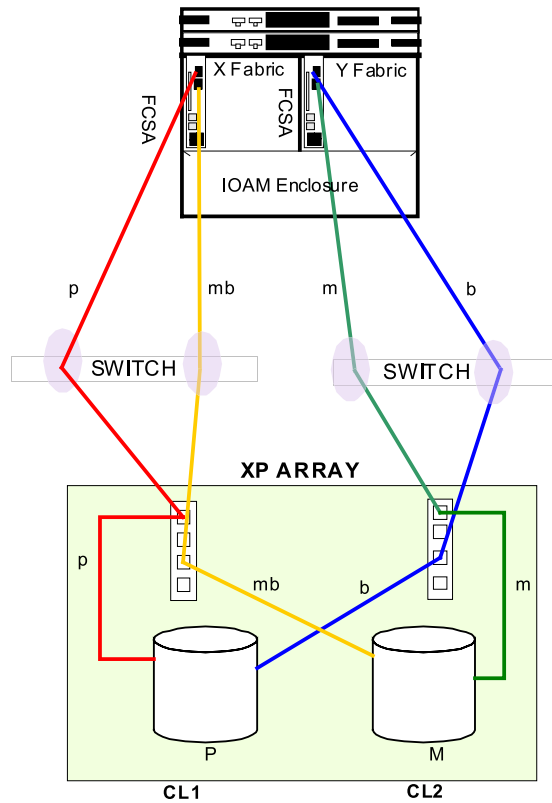
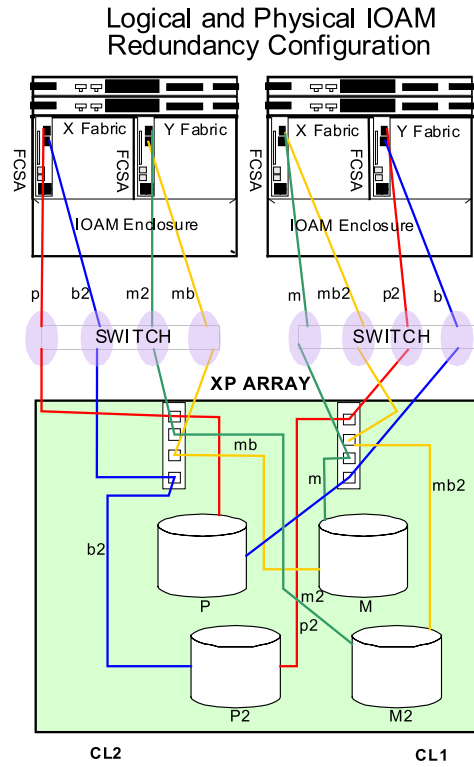
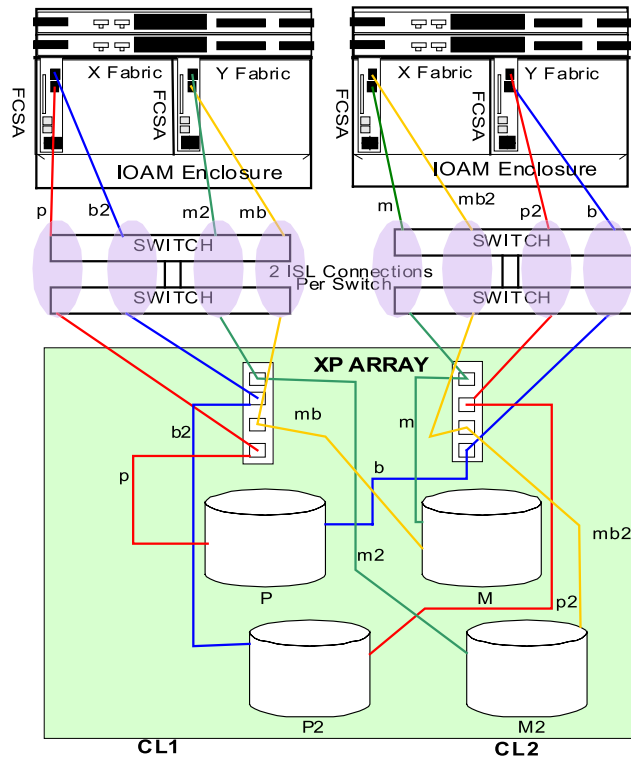

Figure 35: Minimum SAN Configuration for XP
Figure 36: Minimum SAN configuration with logical and physical redundancy for XP
Figure 37: SAN configuration (two cascaded switches) with logical and physical redundancy for XP
- Requires dual redundant fabrics (level 4, non-interconnected NSPOF high-availability SAN configuration. See “Data availability” on page 59 for information about data availability levels.) Each fabric consists of either a single switch or two cascaded switches as shown in Figure 35 on page 132, Figure 36 on page 133, and Figure 37 on page 134.
- HP strongly recommends host-based mirroring. For example, each LDEV (P) is mirrored to a separate LDEV (M) on separate XP ports (p, b, m, mb paths used); but a non-mirrored volume is allowed. For example, each LDEV (P) is not mirrored to a separate LDEV (M) on separate XP ports (only p, and b paths are used).
- For availability, Primary (P) LDEVs and Mirror (M) LDEVs are to be configured on separate array ACP pairs.
See Figure 35 on page 132, Figure 36 on page 133, and Figure 37 on page 134.
Note: The following figures show high-availability configurations. Figure 36 and Figure 37 show configurations with physical IOAM redundancy as well.